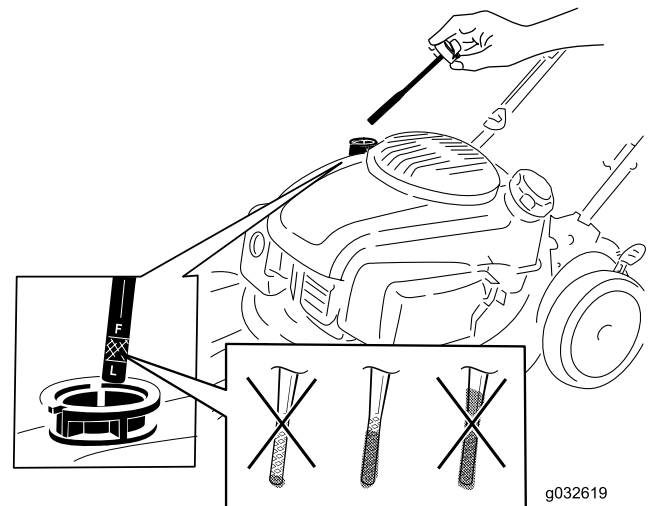

Figure 21
4. **Slowly** pour oil into the oil-fill tube until the oil level reaches the Full line on the dipstick (Figure 21). **Do not overfill.** (Max. fill: 0.53 L (18 oz), type: 10W-30 or SAE 30 detergent oil with an API service classification of SJ or higher.)